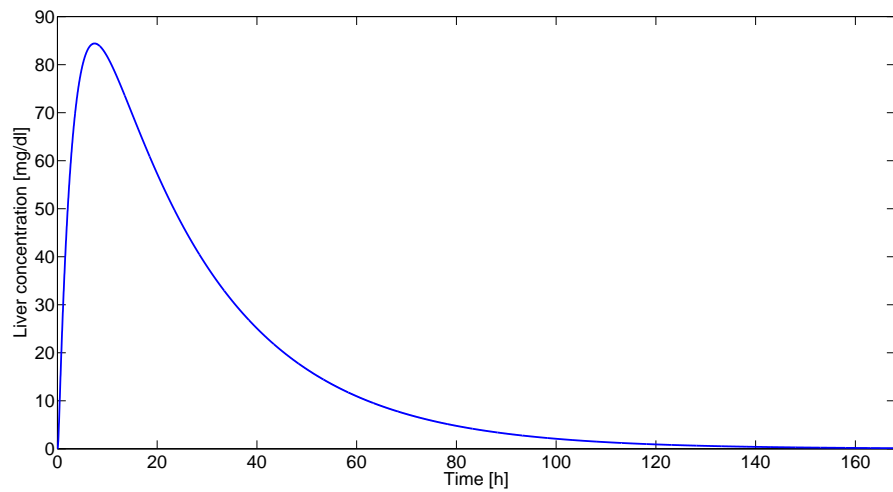

Figure 5.1 Liver concentration at 500 mg dose
- c. Simulating the system with this oral prescription produces the curve in Fig. 5.1 below. Se code in the end of the solution to this exercise.